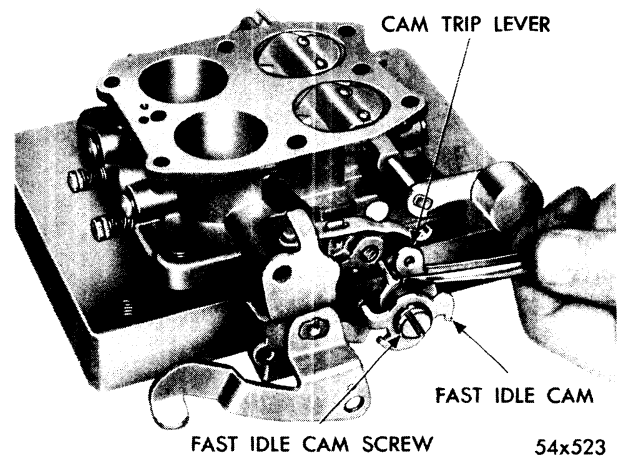
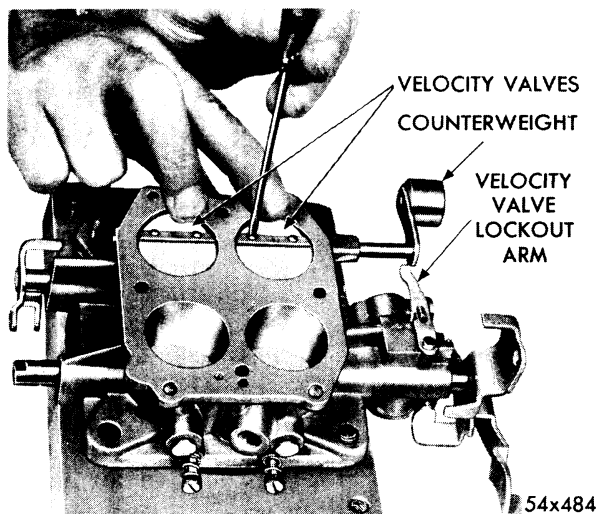

Fig. 31—Removing or Installing Fast Idle Cam Assembly
Fig. 41—Installing Velocity Valves
- (4) Remove the screw that attaches the fast idle cam assembly to the throttle body boss, and lift off the fast idle cam assembly, cam trip lever and screw, as shown in Figure 31.
- (5) When removing cam and trip lever, be sure and note the position of the fast idle cam spring and tangs on trip lever.
- (6) It is usually not advisable to remove the throttle shafts or valves, unless wear or damage necessitates installation of new parts. During manufacture, the location of the idle transfer port and the spark ad-
- (12) Slide the fast idle cam retaining screw through fast idle cam (with threaded shank of screw on spring side). (See Fig. 31.)
- (13) Slide the fast idle cam trip lever over shoulder on screw, guiding the tang between fast idle spring and cam.
- (14) Insert pivot screw into boss and tighten securely. (Be sure tang on trip lever slides between the boss and lockout arm. See that all parts move freely.)
- (15) Slide the velocity valve shaft and counterweight into the throttle body.
- (16) Slide the velocity valves into position, then insert new screws but do not tighten.
- (17) Hold the valves in place with the fingers, as shown in Figure 41. (Fingers pressing on high side of valves.)
- (18) Tap the valves lightly with a screwdriver to seat the valves in the bores.
- (19) Holding the valves in this position, tighten